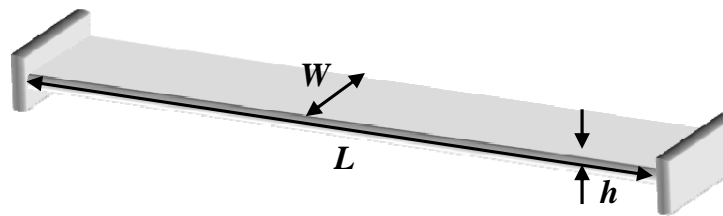

Figure 2
- (a) Using (1), derive an expression for the ratio of frequency shift to mass change ($\frac{\Delta f}{\Delta m}$).
- (b) You are given two such sensors, one where the side dimensions of the cube element are 1 cm , and another with side dimensions of $10 \mu\text{m}$. Suppose you then introduce carbon monoxide (CO) gas onto each, and each cube adsorbs a monolayer of this gas. (Assume that the spring adsorbs nothing.) Compute the frequency shifts of each sensor system after introduction of the gas.
2. The general equation for transverse free vibrations of a prismatic beam, such as shown in Figure 2, can be expressed as